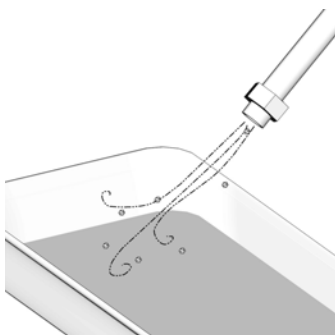

FIG. 11
- Blow out entire lubricant supply line with air (FIG. 11).